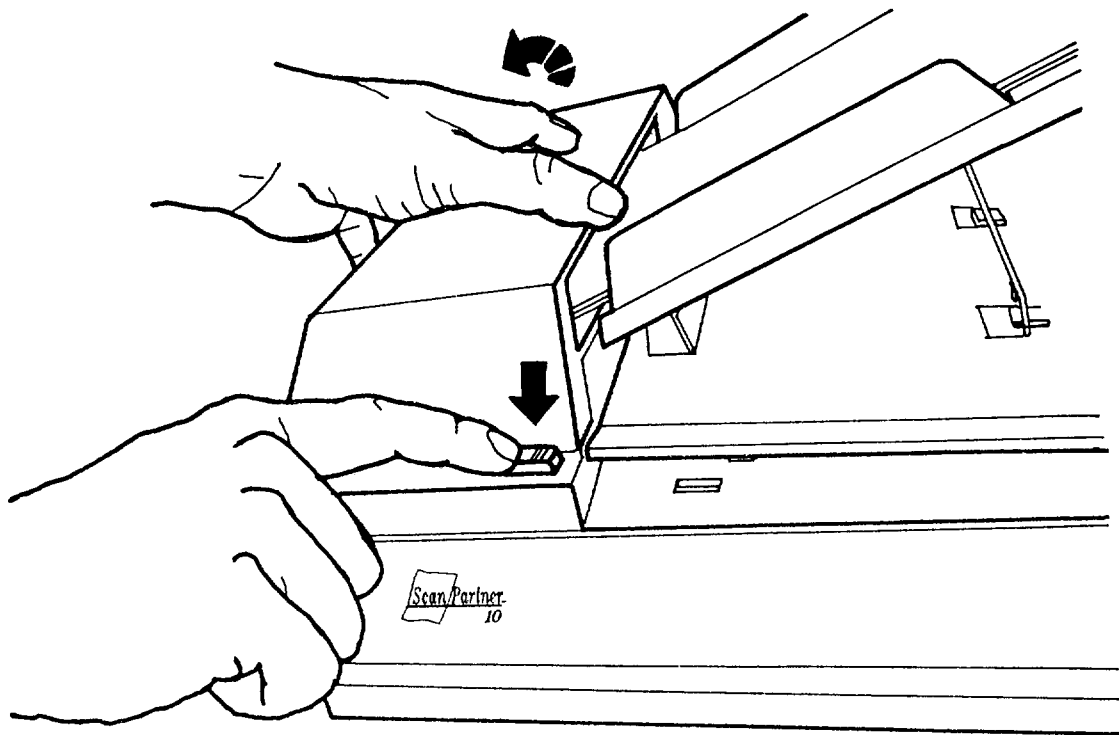

Figure 5.1 Paper Jammed: push the botton
2. Push the button near the front left side of the scanner as shown in Figure 5.1.